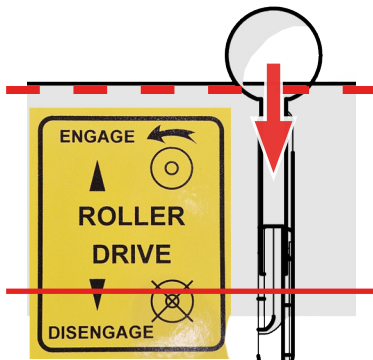

Fig. 12E - Disengage the drive lever.
8. To *stop moving*, pull the Drive Lever towards the rear to the 'disengage' position - the cylinder will continue to spin if the OPC is also depressed (Fig. 12E).